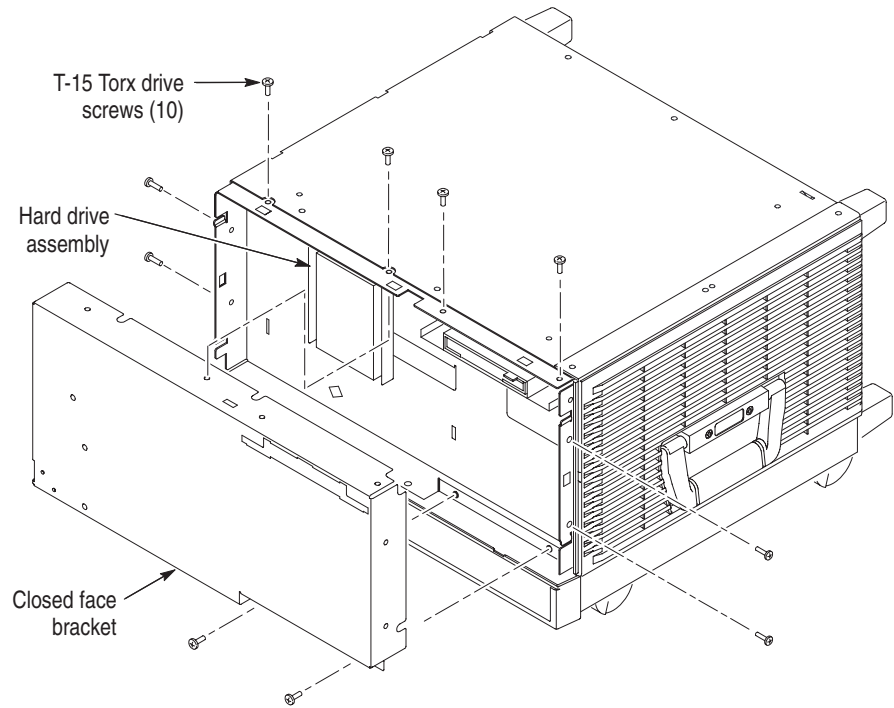

Figure 2-3: Front panel removal of external monitor logic analyzer
1. Locate the hard disk drive in Figure 2-2 or Figure 2-3.